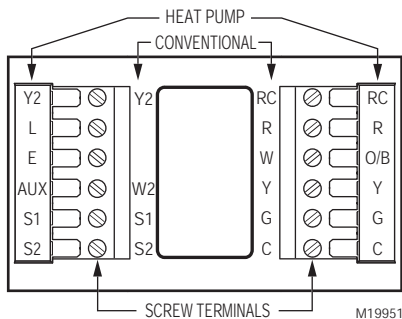

Fig. 7. Selecting terminal identifications for system type.
- Select set of terminal identifications (Table 1) that corresponds with system type (conventional or heat pump in Fig. 7).